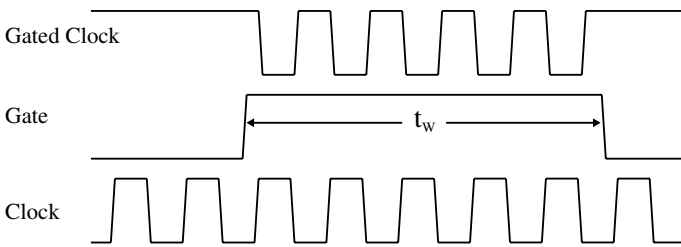

Fig. 12.3. Timing diagram for a gated clock signal. Notice how the gated clock signal is simply the logical NAND of the gate and clock signals.
The object of this exercise is to design a circuit that generates a pulse of about 500 μs duration. To determine experimentally whether your one-shot is functioning properly, use its output to gate the clock to your two-digit decimal counter, i.e., present the counter with a stream of clock pulses only while the one-shot is firing (see Fig. 12.3). The counter will count up the number of clock pulses, which is proportional to the duration of the pulse from the one-shot.
- ▷ Design and build logic that produces a gated clock signal as shown in Fig. 12.3. Be sure to write down the schematic complete with pin numbers.